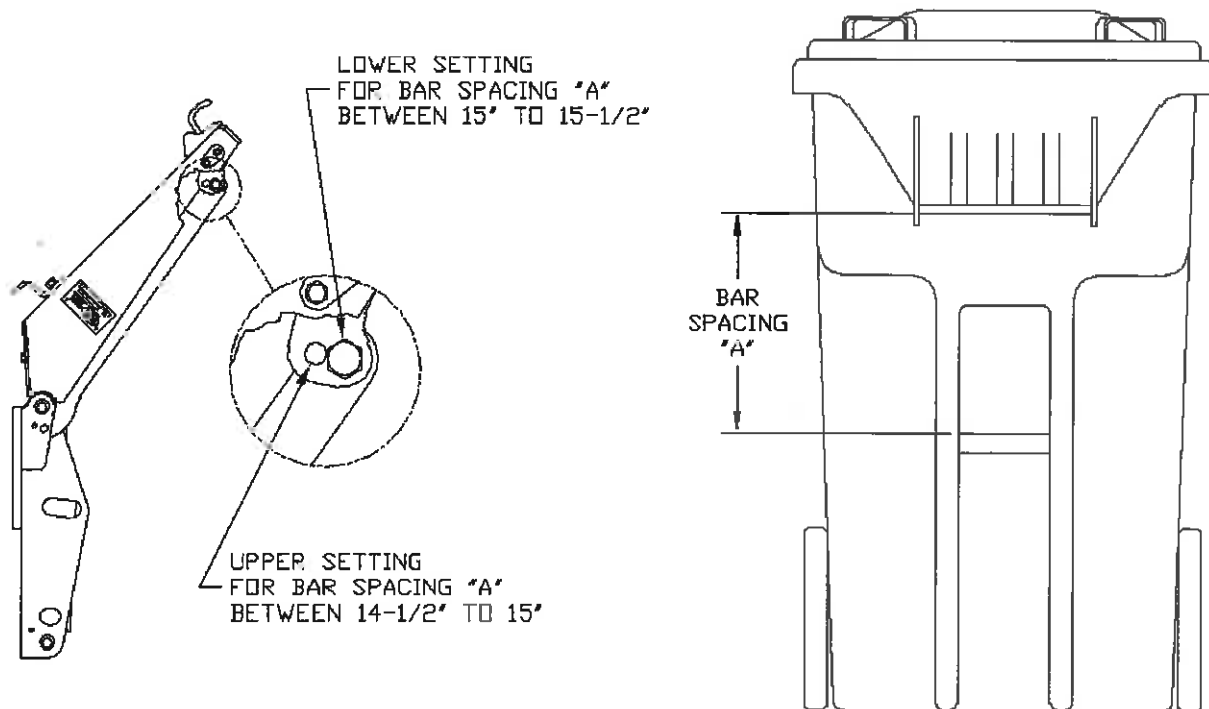

figure O-3
The lower hook is equipped with two settings that must be properly adjusted to accommodate the carts being lifted. Check the distance (A) (figure O-3) between the upper bar and the lower bar on the cart. If this dimension is between $15''$ to $15\text{-}1/2''$, leave the lower hook attachment in the lower setting. If this dimension is between $14\text{-}1/2''$ to $15''$, move the lower hook attachment to the upper setting.